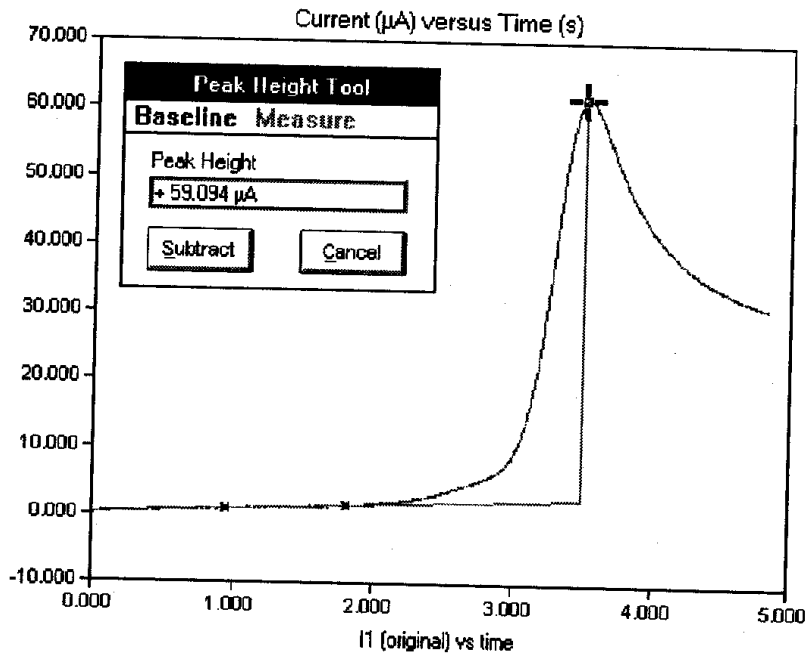

Figure 4: Measuring the Peak Height
7. Plot the voltammogram as a current versus time graph by choosing the **I1 vs. t** option from the **Plot** menu. Then, use the **Peak Height Tool** found in the **Toolbox** menu to measure the height of the anodic peak as shown in Figure 4. Record peak height.